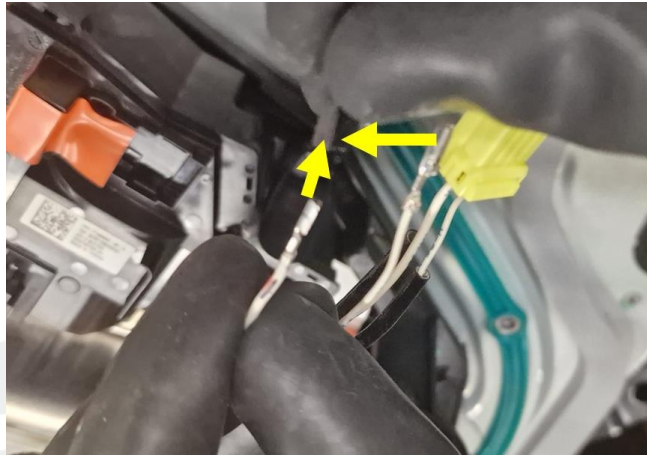

Figure 17
19. Insert the terminals (x2) to the positive pack contactor switch connector (Figure 17).